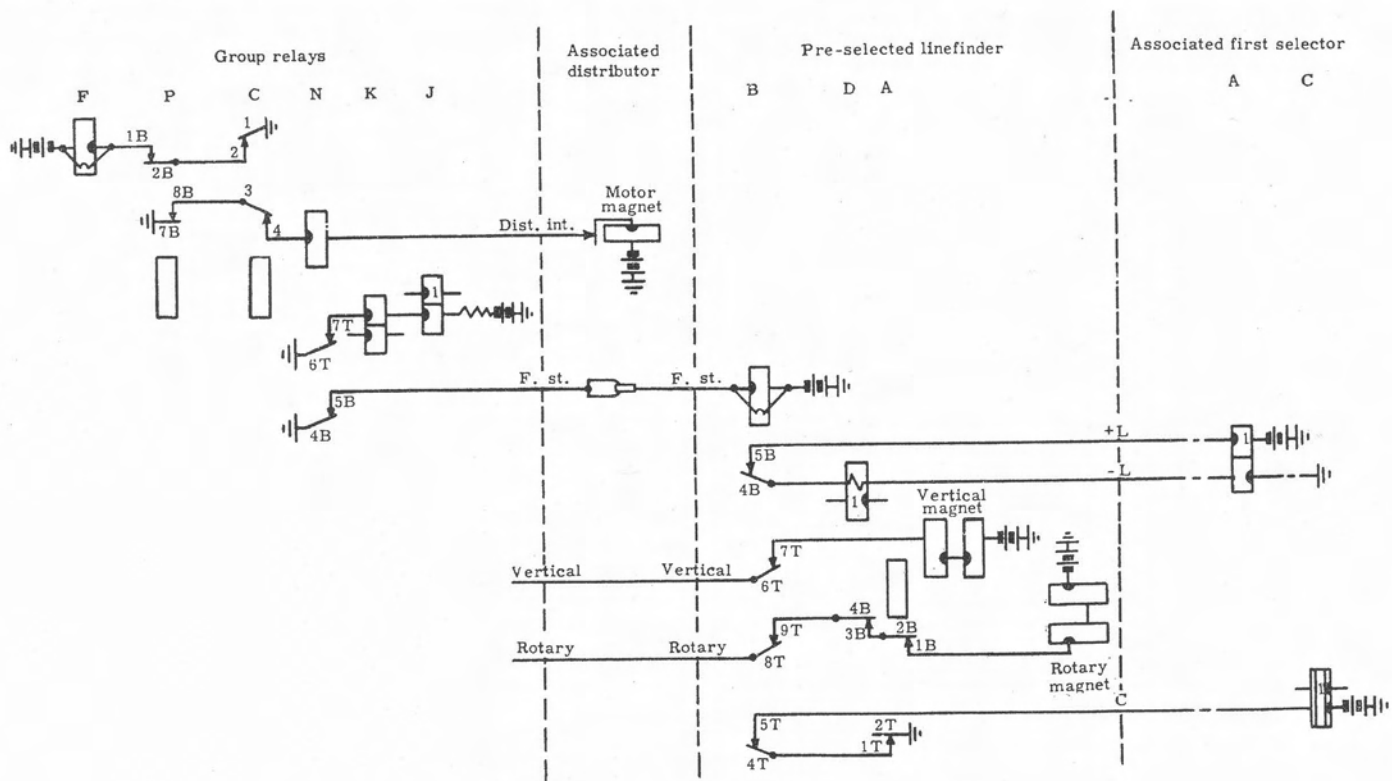

Figure 15. Group relays start the preselected linefinder.
**4.2 Starting.** The operation of a group's relay C indicates that a linefinder of that group must find the calling line. Relay C operates relay F (figure 15) and connects relay N in series with the distributor motor magnet. Relay N operates (but the distributor motor magnet does not). Relay N closes a circuit through relay K winding 2 and relay J winding 2. Relays K and J do not operate but, being pre-energized, will operate quickly when needed. Also, through the FST (finder start) wiper of the distributor, relay N operates relay B of the preselected linefinder. Linefinder relay B operates associated first-selector relays A and C and connects the preselected linefinder's vertical and rotary magnets to the group relays. Since only the preselected linefinder's vertical and rotary magnets are connected to the group relays, the preselected linefinder is the only one that can be stepped by the group relays.